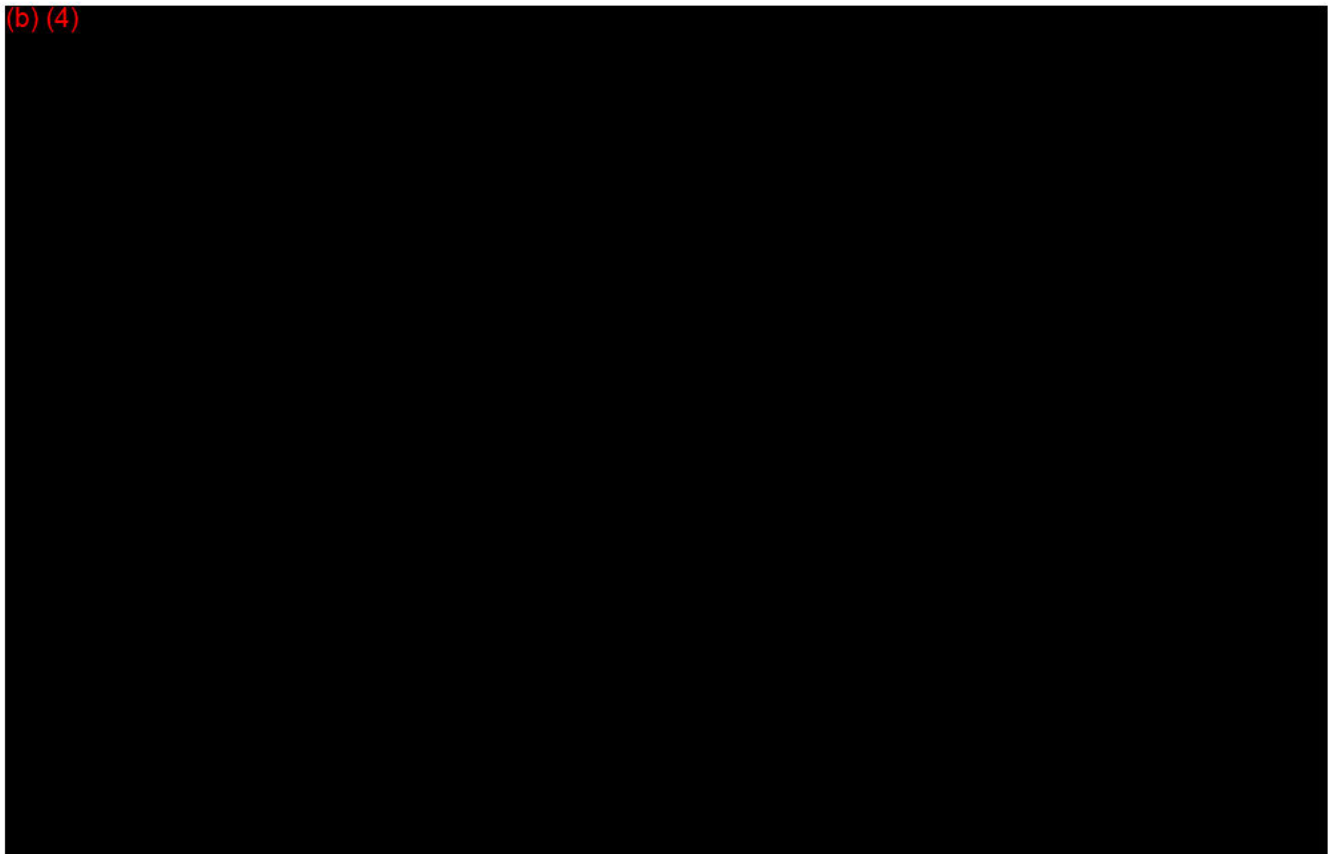

Figure 3. Piping and instrumentation diagram for (b) (4) ISO portable tank container.
Figure 3 is a copy of the piping and instrumentation diagram (P&ID) for the (b) (4) ISO tank container, which depicts the piping connections to the inner tank. The piping connections to the inner tank are the following:
- (b) (4)